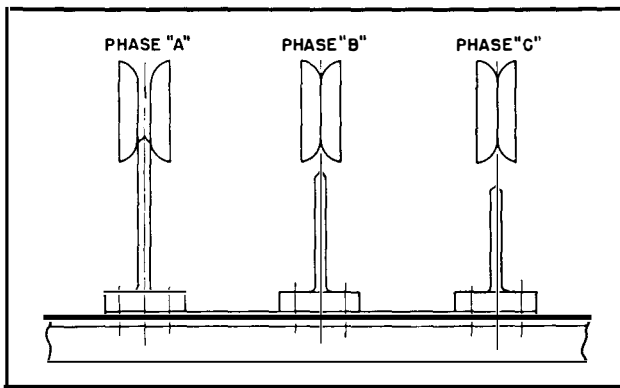
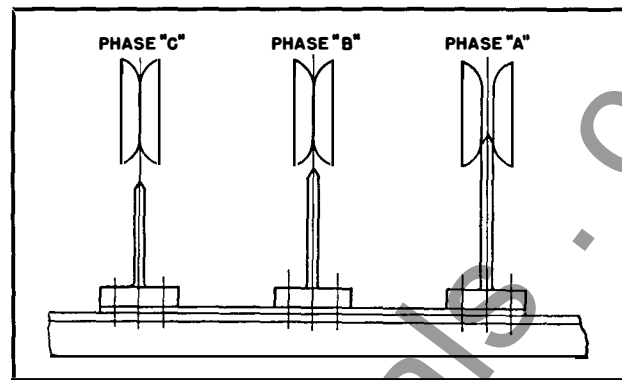
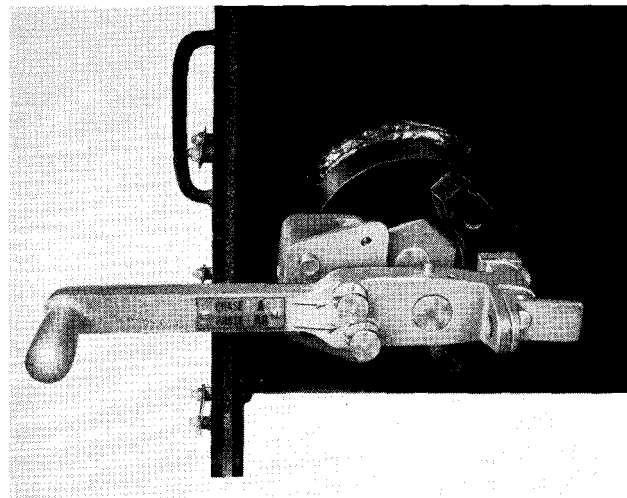

FIG. 4. Standard Phasing Sequence A-B-C, Left to Right, Facing Switch
FIG. 5. Special Phasing Sequence A-B-C, Right to Left, Facing Switch
FIG. 6. Side View of Switch in Open Position
**Phasing-Out Contacts.** On the three-position disconnect and grounding switch, phasing-out contacts may be provided so that one phase of the cable can be grounded at a time. Buttons are provided on the operating handle for this operation. Sequence of grounding may be either left to right, per Fig. 4, or right to left, per Fig. 5. The former is standard and will be furnished unless otherwise specified on the order. See Figs. 4 and 5.
1. When pin marked A on the handle (See Fig. 6) stops the movement, the contacts are engaged for phase A as shown in Figs. 4 and 5, Phases B and C are open-circuited. Check for circuit through phase A with test voltage, then tag.